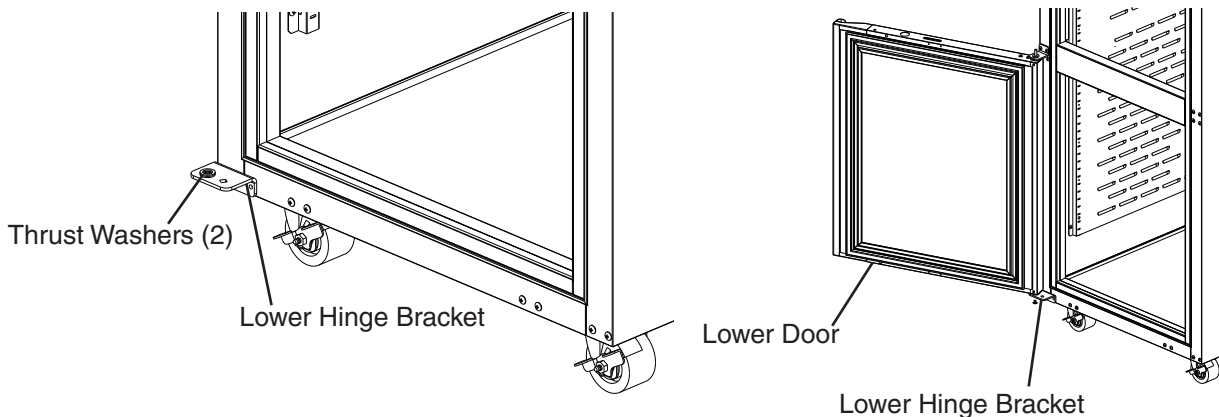

Fig. 28
- 12) Make sure the lower hinge bracket thrust washers (2) are in place, then with the lower door (former rotated upper door) in the maximum open position, place the door onto the lower hinge bracket. See Fig. 28. The spring cartridge shaft should slide into the lower hinge bracket and be flush with the bottom of the lower hinge bracket.